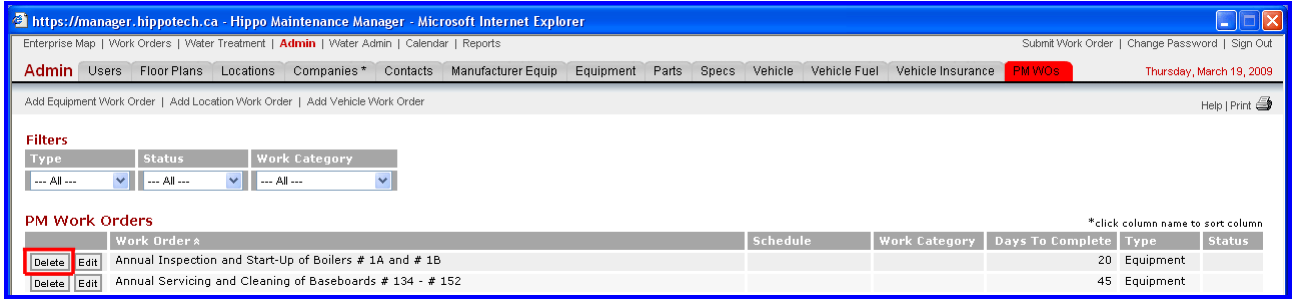

Figure 66: Delete PM Work Order
2. Click the **Delete** button beside the vehicle PM work order (schedule) that you want to delete (See Figure 66).